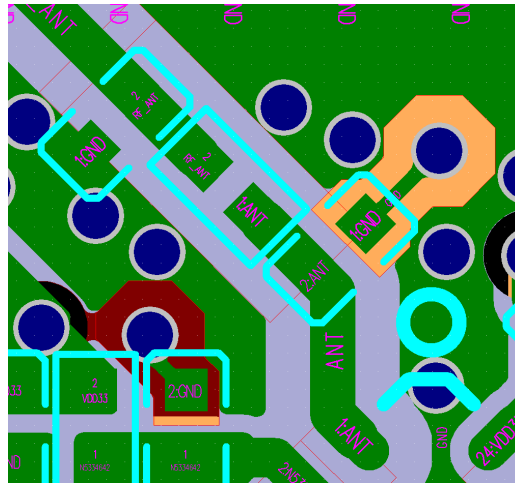

Figure 18: ESP8684 Stub in a Four-layer PCB Design
- Please add a stub between the ground and the capacitors near the chip to suppress second harmonics. It is preferable to keep the stub length 15 mil, and determine the stub width according to the number of PCB layers, so that the characteristic impedance of the stub is  $100 \Omega \pm 10\%$ . In addition, please connect the stub via to the third layer, and maintain a keep-out area on the first and second layers. The trace highlighted in Figure 18 is the stub. Note that a stub is not required for package types above 0201.